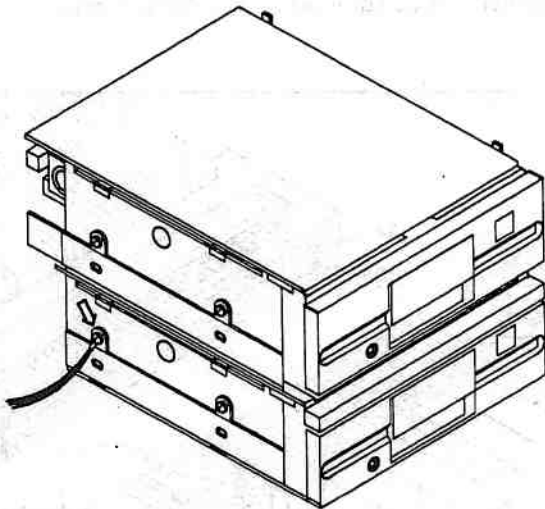

Figure 5-65. Removing the Drive Assembly Ground Strap
7. Remove the screw(s) from the side of the assembly that secures the ground strap(s) and remove the drive assembly from the System Module (Figure 5-65).